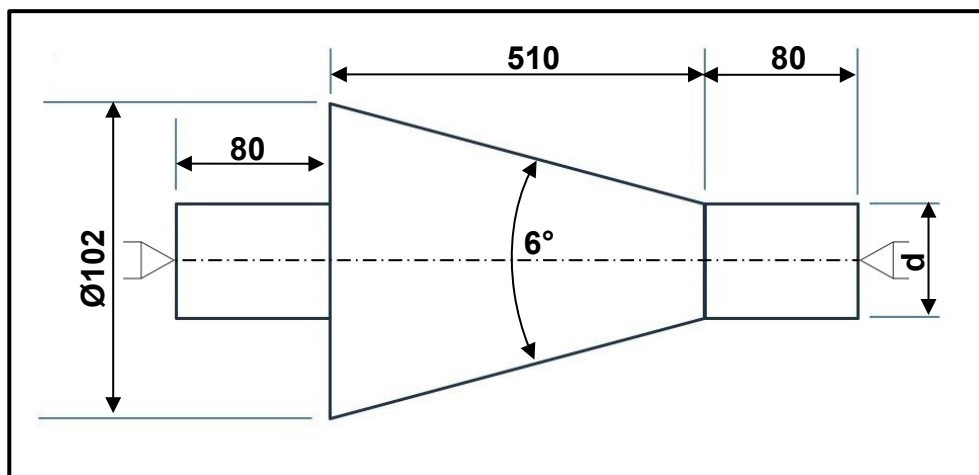

FIGURE 5.2
- 5.2 FIGURE 5.2 below shows a taper with an included angle of 6° which should be machined between centres.